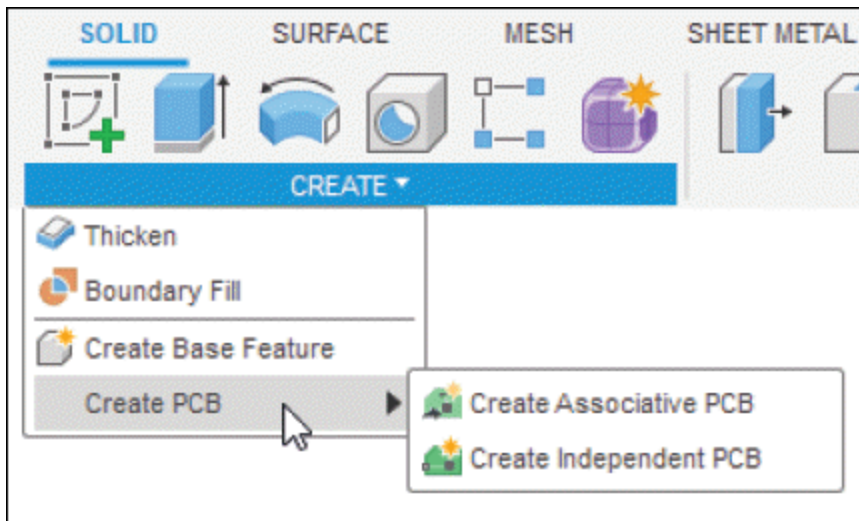
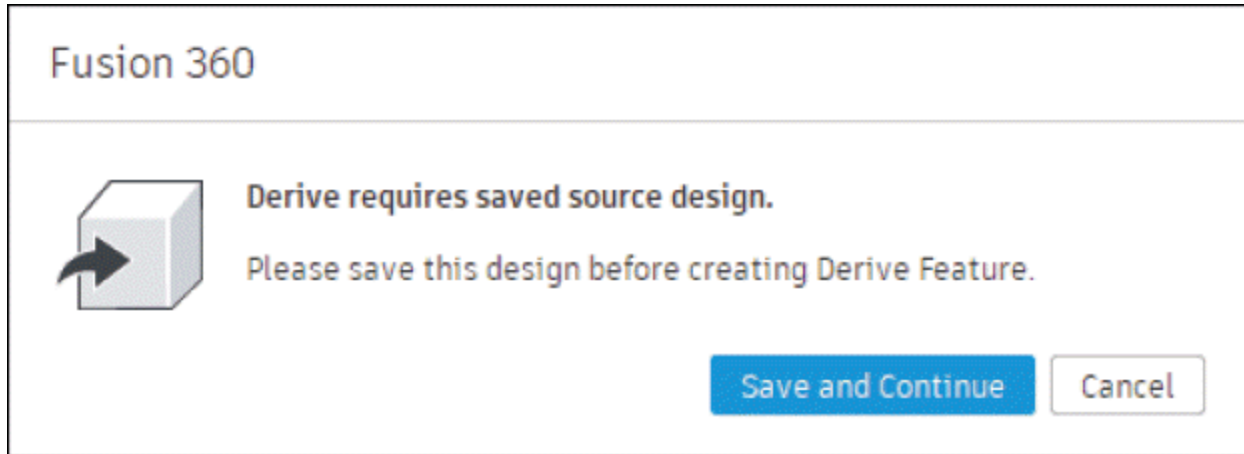
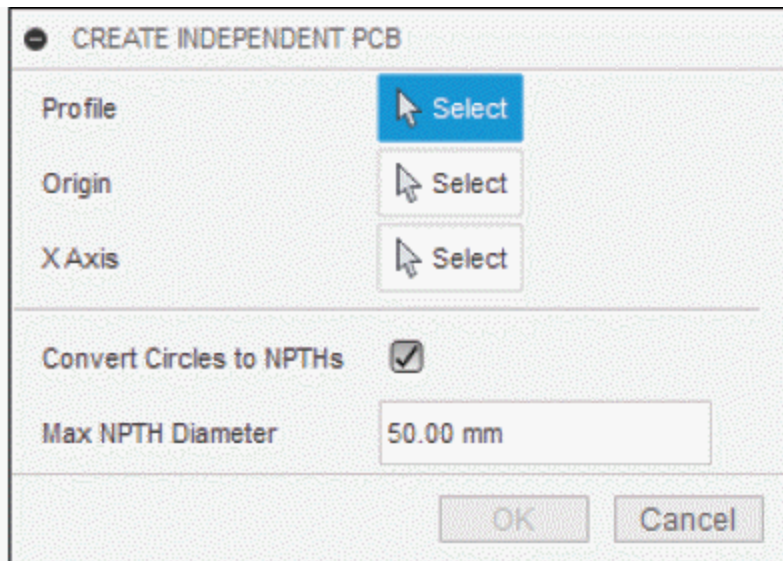

Figure-127. Create PCB cascading menu
Figure-128. Pop-up window
Figure-132. CREATE INDEPENDENT PCB dialog box
The **Create PCB** tools in **CREATE** drop-down is used to create and modify PCB design in collaboration with **EAGLE** users. There are two tools in **Create PCB** cascading menu; refer to Figure-127. The procedures to use these tools are given next.
- Click on the **Create Associative PCB** tool from **Create PCB** cascading menu; refer to Figure-127. A pop-up window will be displayed asking you to save the current design; refer to Figure-128.
- Click on the **Create Independent PCB** tool from **Create PCB** cascading menu; refer to Figure-127. The **CREATE INDEPENDENT PCB** dialog box will be displayed; refer to Figure-132.